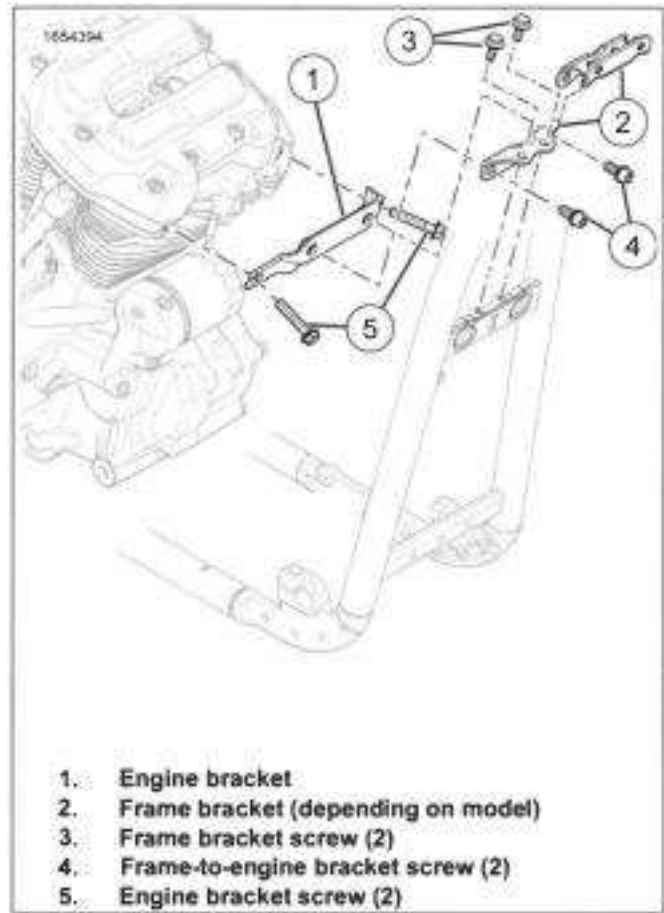

Figure 4-16. Upper Front Engine Mount
- See Figure 4-16. Remove frame-to-engine bracket screws (4).
- Remove frame bracket (2).
- Remove frame bracket screws (3).
3. Remove engine bracket (1).
- a. Loosen engine bracket screws (5).
- b. Remove engine bracket (1) by lifting left side up then pulling to the left.
1. See Figure 4-16. Install engine bracket.
- a. Install engine bracket (1).
- b. Hand tighten engine bracket screws (5).
- a. Install frame bracket (2).
- b. Install frame bracket screws (3). Hand tighten.
3. Install frame bracket-to-engine bracket screws (4). Hand tighten.
- a. Tighten engine bracket screws (5).